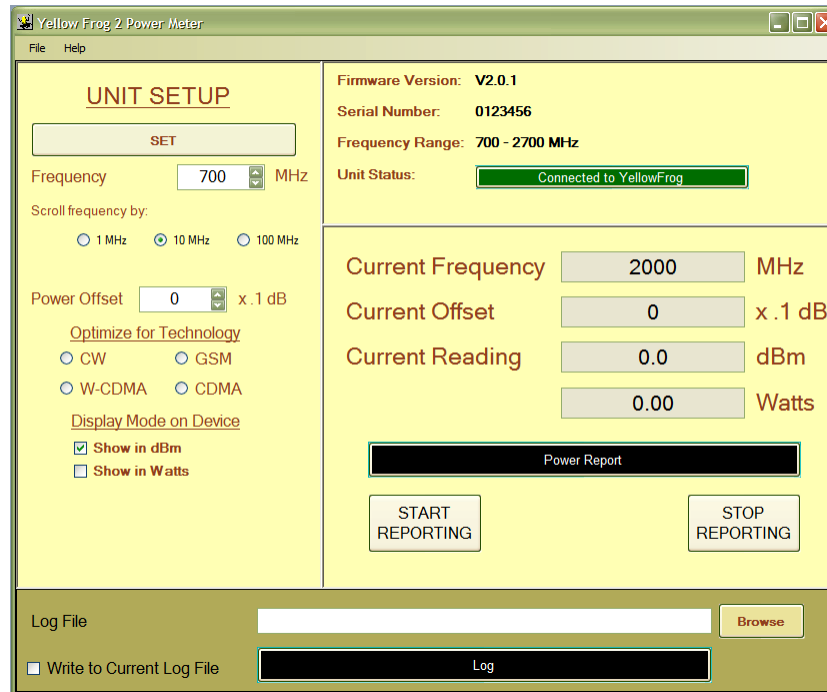

Figure 1. Yellow Frog 2 Power Meter Window
3. Start the YF2 Power Meter software; the YF2 unit should be detected and connected within one minute, as seen in the Yellow Frog 2 Power Meter window in Figure 1. When the unit is connected, **Connected to YellowFrog** will be displayed to the right of “Unit Status”. Firmware version, serial number, frequency range and unit status should be displayed in the upper right compartment of the YF2 Power Meter window as seen in Figure 1:
5. Proceed with unit setup by entering: frequency (in MHz), power offset (, signal type and units of measurement in the “UNIT SETUP” compartment of the user interface window and press the “SET” button. Once set, these parameters will be “remembered” by the YF2 unit even if the unit is turned OFF and ON again. The current values of these parameters will be displayed on the lower right hand side compartment of the YF2 Power Meter window, as seen in Figure 1 above. To change them, enter new values by repeating this step.
After step “c)”, the Yellow Frog 2 Power Meter window should display the window in Figure 1.
The unit will display some of its properties in the top compartment of the YF2 Power Meter window, as seen in Figure 1, repeated in Table 1 below:
After these parameters are selected, press the “SET” button under “UNIT SETUP”, to set the unit. Once set, these parameter values will be “remembered” by the YF2 unit until they are changed again at a later time. The current values of these parameters will be displayed on the lower right hand side compartment of the YF2 Power Meter window, as seen in Figure 1 above. To change them, enter new values by repeating this sequence. To start reading power level, click the “START REPORTING” button. This will result in the flashing of the label **Power Report** in green background and the display of measured power level in dBm and/or Watts next to the “Current Reading” label. The frequency and power offset settings of the YF2 unit will also be displayed next to their respective labels. To stop reading, press the “STOP REPORTING” button. This will resume the steady label **Power Report** in black background